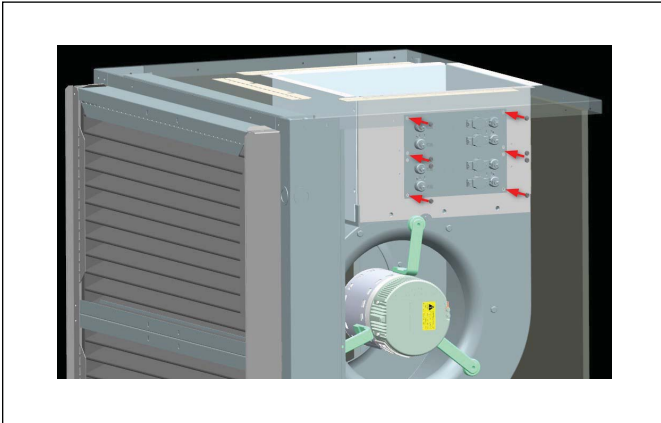

Figure 24
6. Screw the heating elements into place after they have been successfully inserted (figure 24).